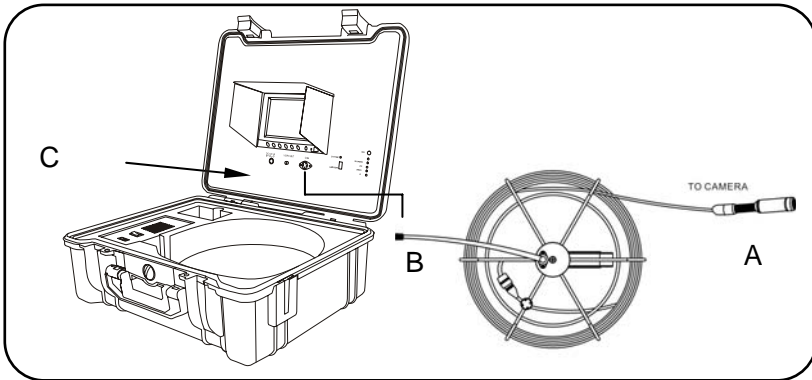

Figure 1
2. Screw the Camera to the Wheel Cable (See Figure1- A) & Connect the Wheel to the Monitor (See Figure 1-B).
3. Plug the Power Adapter cord into the wall AC socket and other end into the DC 12V-Input Jack, or plug the cord from the Battery Box into the DC 12V-Input Jack (See Figure1- C). If use the Battery Case Power, plug the Power Cord of Battery Case into the DC 12V-Input Jack.